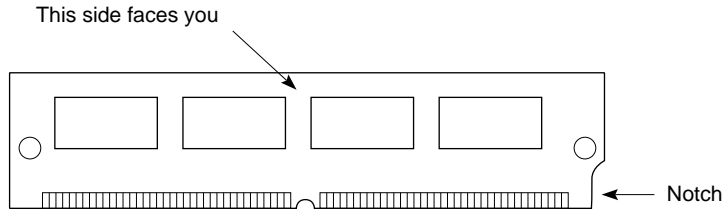

Figure 4-3 Orienting the SIMM
- Using both hands, grasp the top of the SIMM so the notch in the bottom corner of the SIMM is on your right, as shown in Figure 4-3. (This is the side closest to the CPU module.)